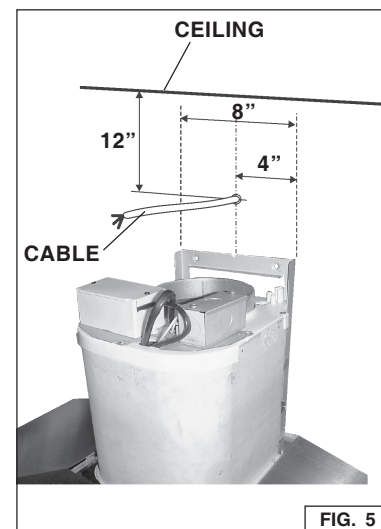

FIG. 5
3. Flues conceal the cable. Make sure cable exits the wall within dimensions shown and long enough to reach the hood. Fig. 5.